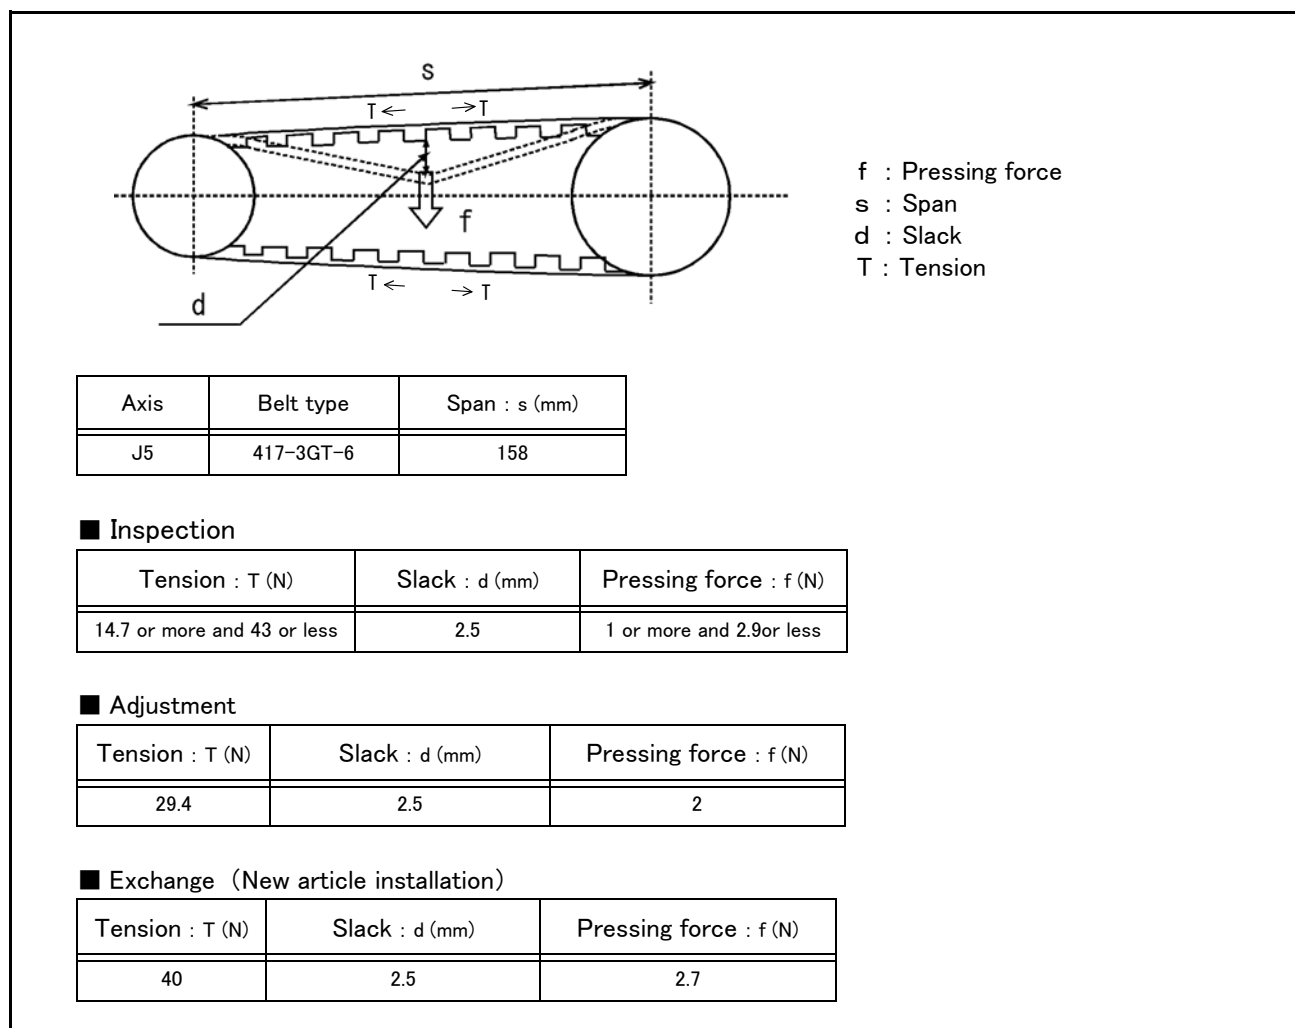

Fig.5-5 : Belt tension
- 3) Visually confirm that the symptoms indicated in "(1) Timing belt replacement period" have not occurred with the timing belt.
- 4) Confirm that the belt tension is adjusted to slacken approx. 2.5mm when the center of the belt is lightly pressed with a finger (approx. 2N) as shown in "Fig.5-5 : Belt tension".
The detailed adjustment (tension) is shown in Fig. 5-5.
The lubrication specifications for each place are shown in Fig. 5-5.